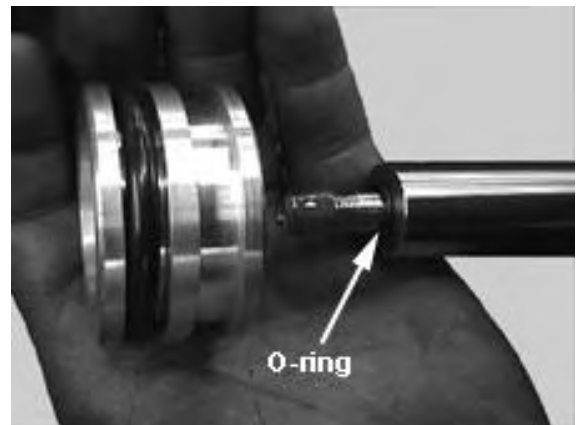

Fig. 87
46. Place a new o-ring on the shoulder of the shaft and install the piston to the shaft using #272 Loctite on the retaining nut threads. Torque to spec. See Fig. 87.